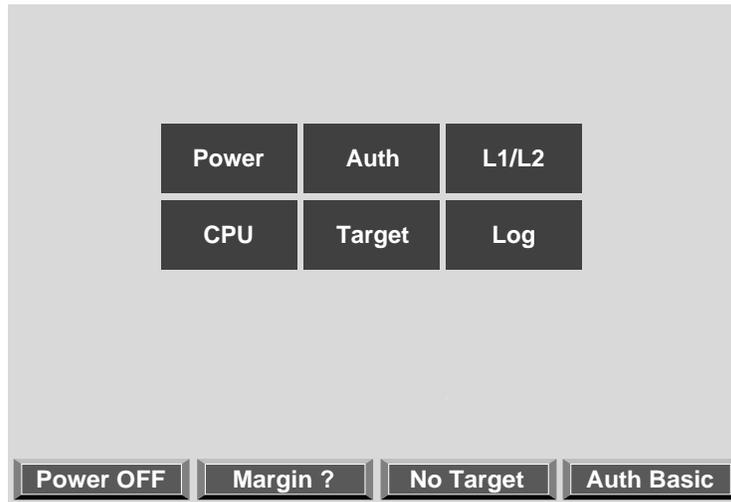

Figure 2-9 Home Window
1. Select **Power** from the **Home** window shown in Figure 2-9.